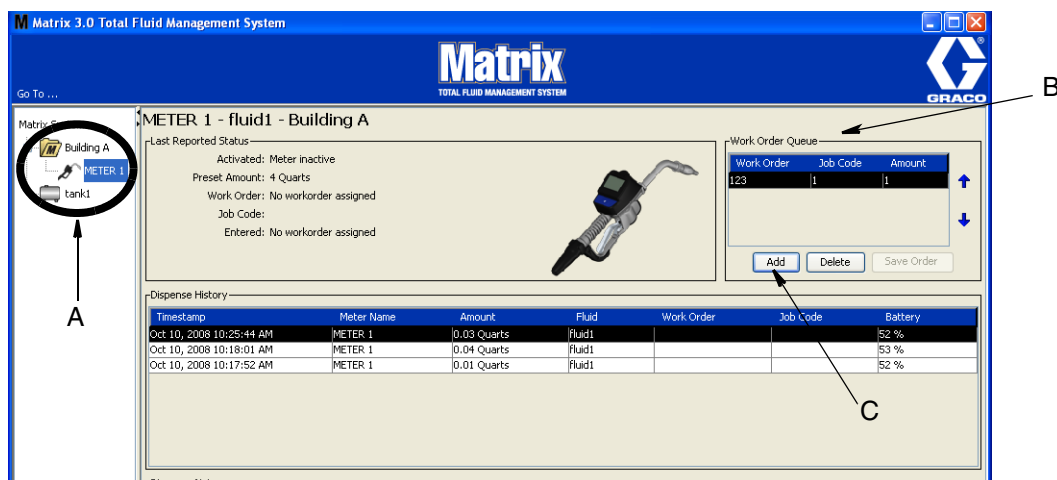

FIG. 230
1. In the System Administrator Defined Groups area of the Matrix Main Screen (A), select the meter you are sending the Work Order to (FIG. 230).
2. In the Work Order Queue section (B) of the screen click the Add button (C) (FIG. 230). A list of work orders available to that meter displays.